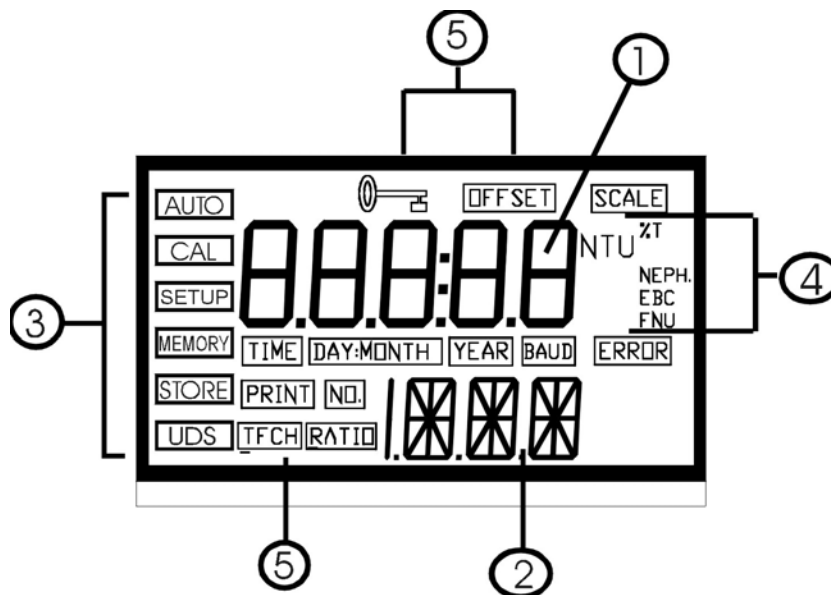

Figure 2 – Display used in the instrument. All items that are used on the display are shown in this figure
Figure 2 illustrates all the items that can appear on the display. The upper row of the display (1) is used for reporting the turbidity levels and to provide user guidance in the customer setting routine. The lower row of the display (2) is used to communicate error messages and user guidance. The display has several status indicators (3) that distinguish the operation of the instrument. In addition there are several indicators that display the different scales (4) that the instrument will report. Other indicators (5) provide guidance when the setup and calibration routines are being used.